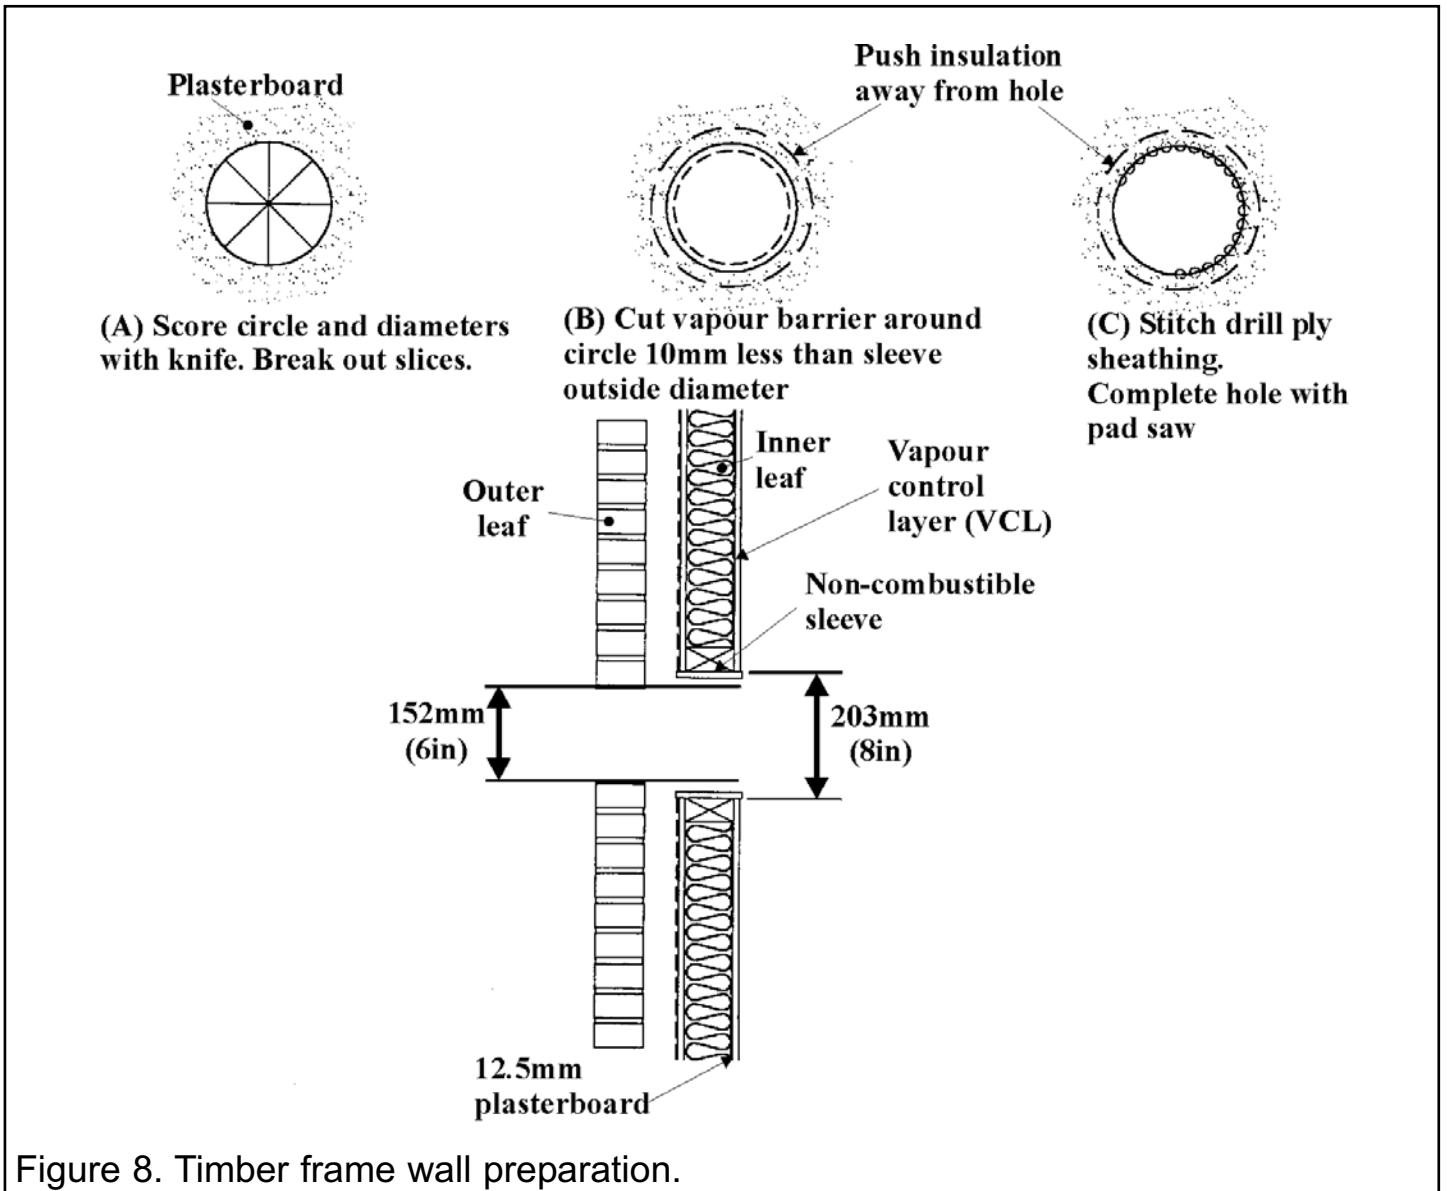

Figure 8. Timber frame wall preparation.
- Mark out and cut a hole 202mm diameter through the combustible part of the wall. A 152mm diameter hole can be cut through non-combustible parts of the wall. A 152mm diameter hole can be cut through non-combustible parts of the wall (See figure 8).
- Since the flue will pass through combustible material in the inner leaf of the wall, a non-combustible sleeve 203mm (8in.) diameter will be required round the flue (See figure 8).